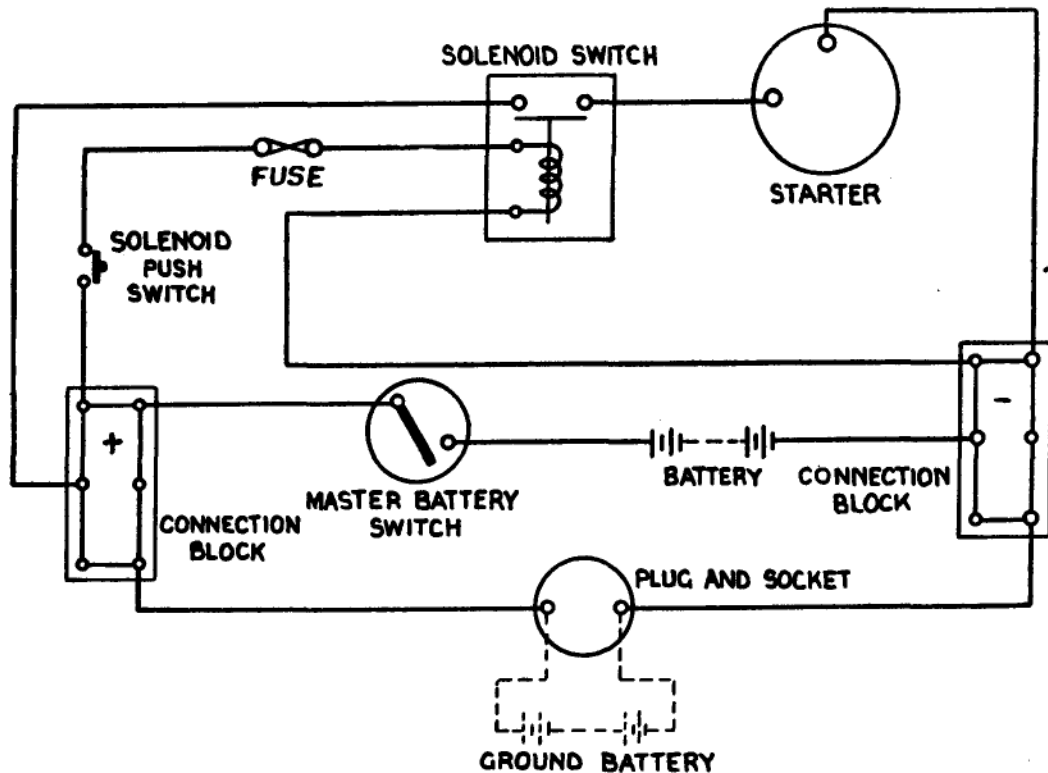

Fig. 4.—Typical circuit diagram
12. When used to control a single piece of equipment such as an engine starting motor, the switch should be wired up as shown in fig. 4.